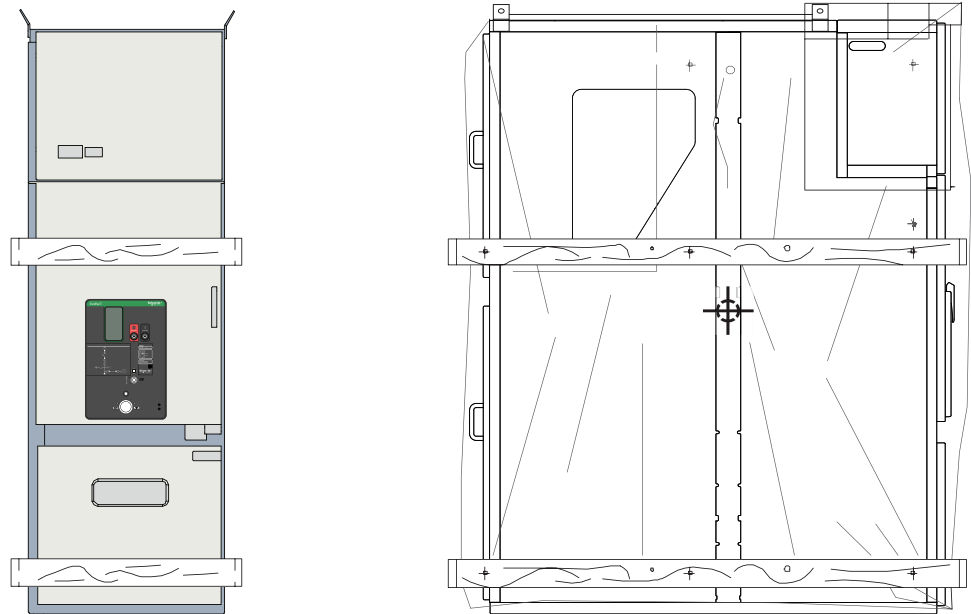

Figure 7
- If packed exclusively for truck transport, the cubicles are delivered on a pallet with PE protective film (Figure 7).